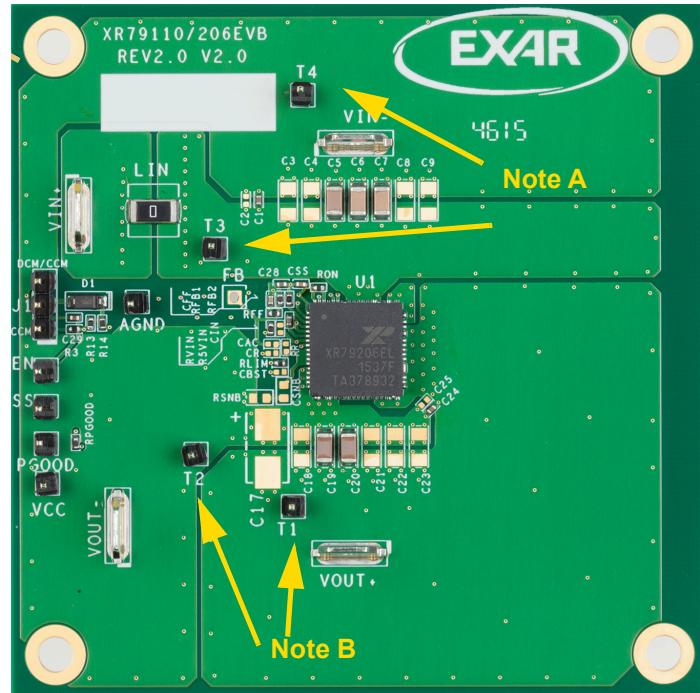

Figure 1: Monitoring V_{IN} and V_{OUT}
2. Connect a turned-off power supply that is within the V_{IN} specification (5V to 40V, 24V typical) to V_{IN+} and V_{IN-} with short / thick leads. Use test pins T3 and T4 to monitor V_{IN+} and V_{IN-} respectively. See locations in Figure 1 Note A.
3. Initially set to 0A, connect an electronic load that will be no more than the maximum I_{OUT} (6A) to V_{OUT+} and V_{OUT-} with short / thick leads. Use test pins T1 and T2 to monitor V_{OUT+} and V_{OUT-} respectively. See locations in Figure 1 Note B.